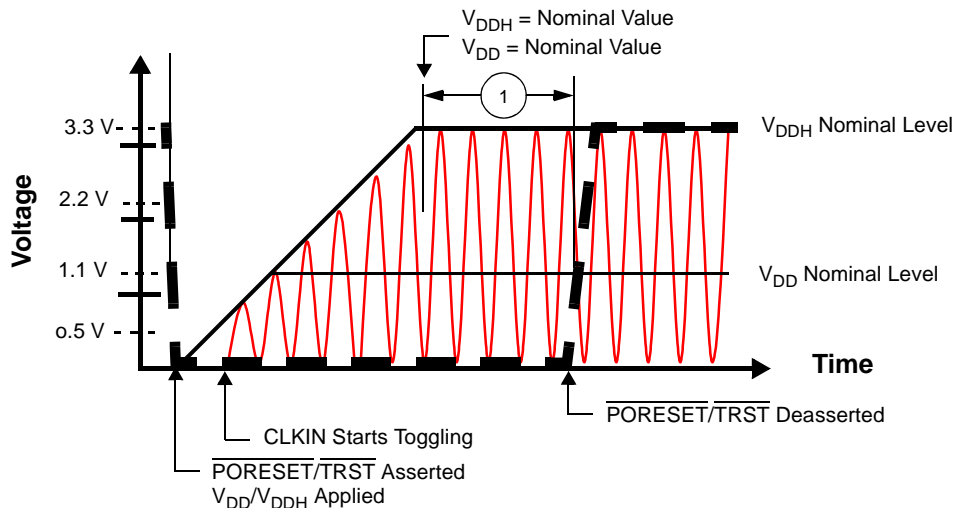
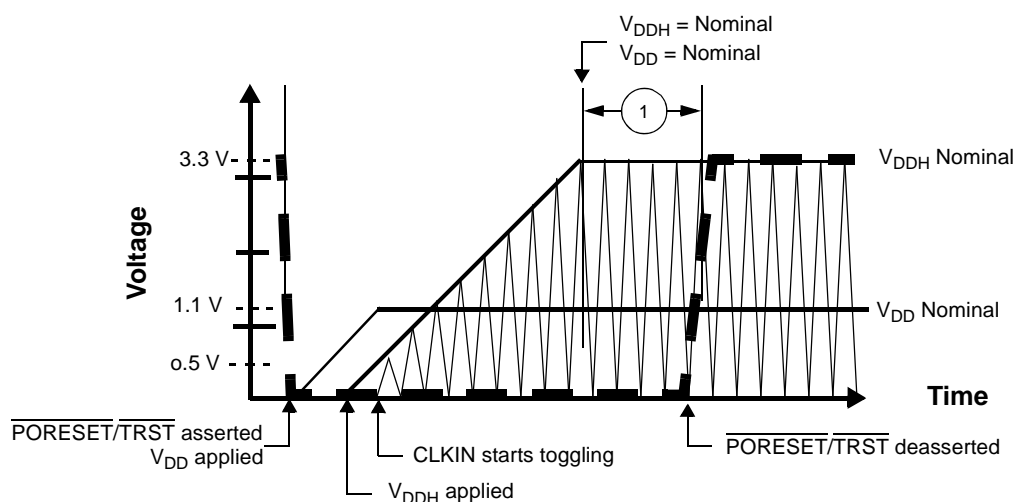

Figure 6. Start-Up Sequence:  $V_{\text{DD}}$  and  $V_{\text{DDH}}$  Raised Together
Figure 7. Start-Up Sequence:  $V_{DD}$  Raised Before  $V_{DDH}$  with CLKIN Started with  $V_{DDH}$
- If possible, bring up the  $V_{\text{DD}}$  and  $V_{\text{DDH}}$  levels together. For designs with separate power supplies, bring up the  $V_{\text{DD}}$  levels and then the  $V_{\text{DDH}}$  levels (see **Figure 7**).
- CLKIN should start toggling at least 16 cycles (starting after  $V_{\text{DDH}}$  reaches its nominal level) before  $\overline{\text{PORESET}}$  deassertion to guarantee correct device operation (see **Figure 6** and **Figure 7**).
The following figures show acceptable start-up sequence examples. **Figure 6** shows a sequence in which  $V_{\text{DD}}$  and  $V_{\text{DDH}}$  are raised together. **Figure 7** shows a sequence in which  $V_{\text{DDH}}$  is raised after  $V_{\text{DD}}$  and CLKIN begins to toggle as  $V_{\text{DDH}}$  rises.